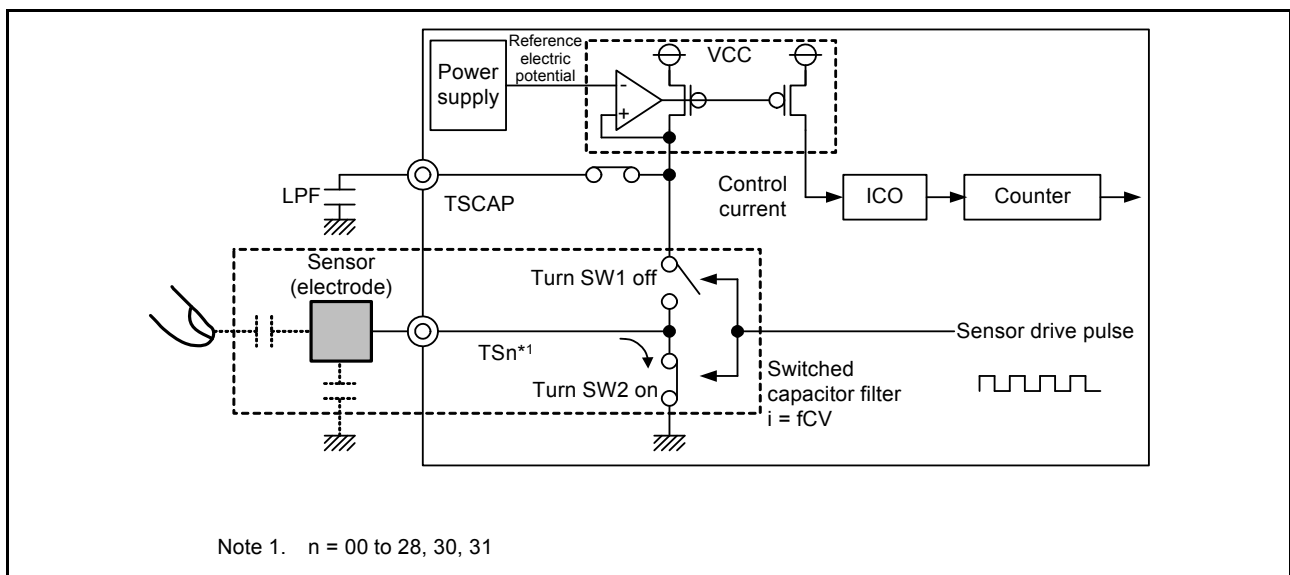

Figure 34.6 Discharging operation
2. The charged capacitance is discharged by turning SW1 off and SW2 on. See Figure 34.6.